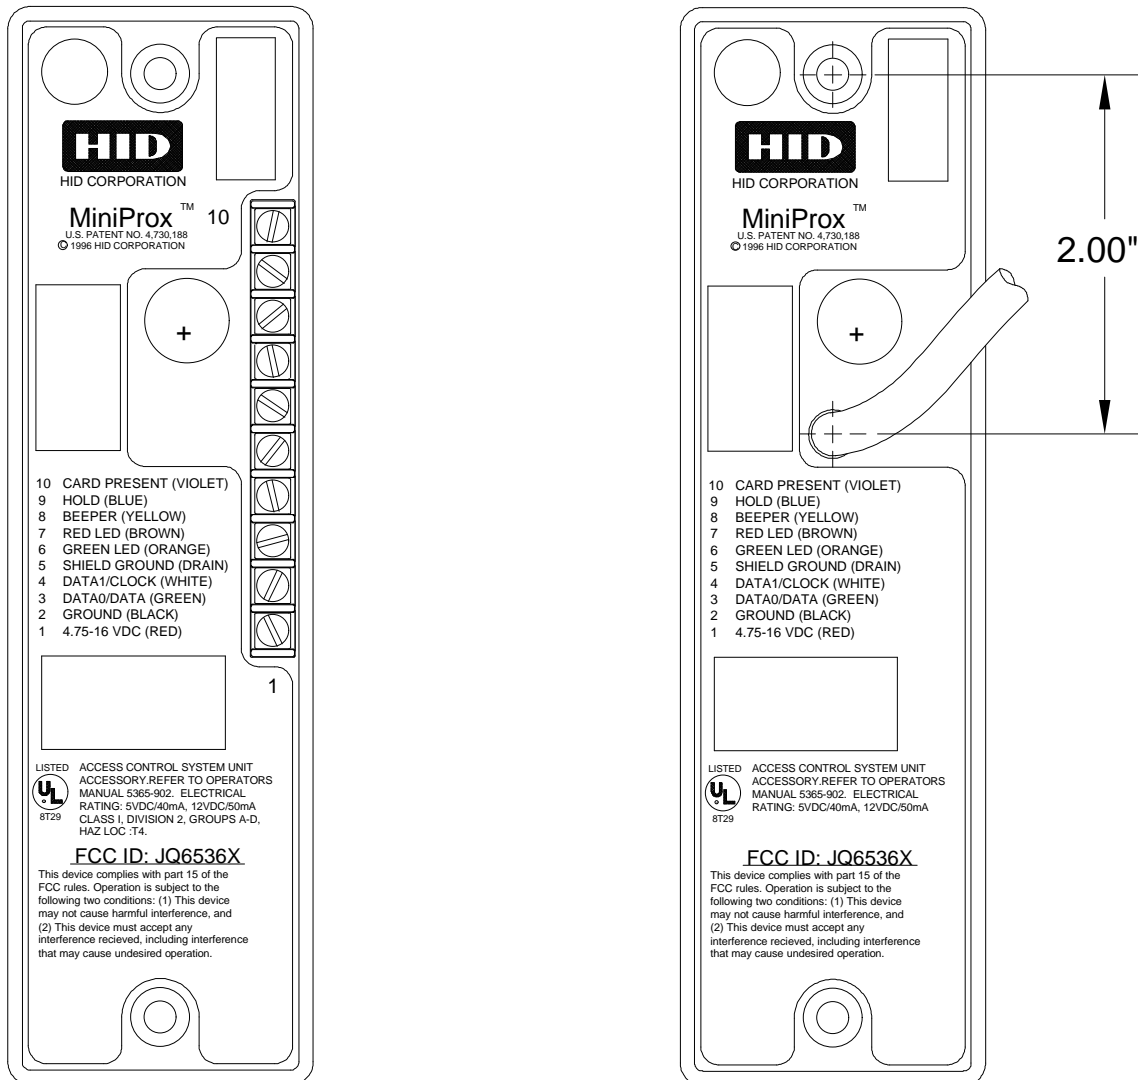

FIGURE 3
3. Connect the Reader and Host together according to the wiring diagram with figure 3 and the Host installation guide. The legend for wiring is color coded (according to the "Wiegand Standard") for the
4. Connect the Reader and Host together according to the wiring diagram with figure 3 and the Host installation guide. The legend for wiring is color coded (according to the "Wiegand Standard") for the recommended cable, but marking the wires will make future maintenance easier. The numbering for the terminals is also shown on the back label as well as in the diagram below.